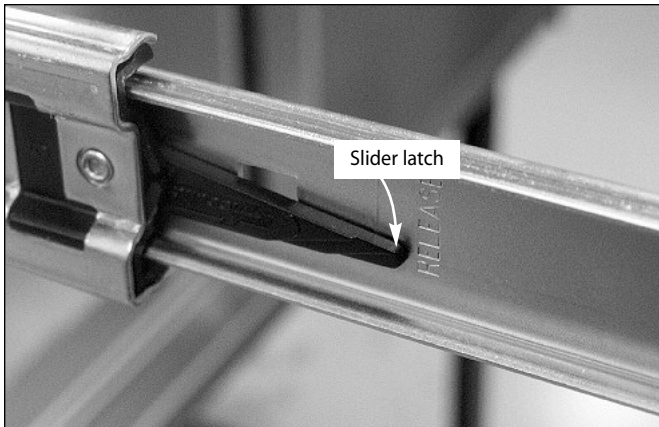

Fig. 7
1. Once the unit has been inspected, remove the left drawers by pulling them out until their slider latch is visible. Carefully push the latch down on the left side while pulling up on the right side and pull the drawers completely out of the frame (Fig. 7).